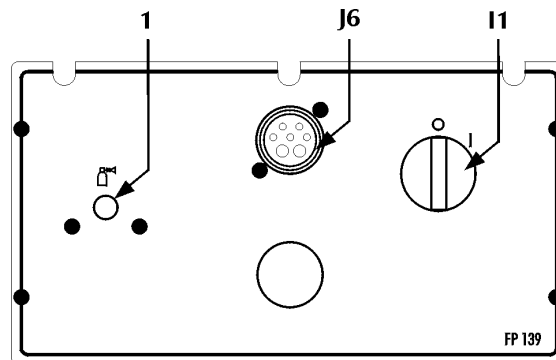

Fig.4
2.2 Bakre kontrollpanel (Fig. 4)